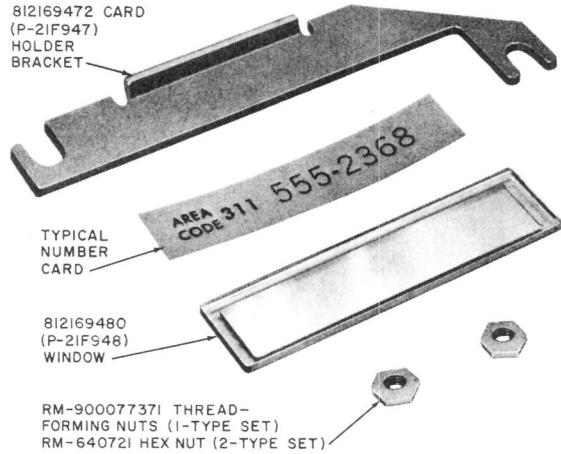

Fig. 21—Number Card and Associated Hardware (TOUCH-TONE Set)
3.41 An 812169472 (P-21F947) card holder bracket, 812169480 (P-21F948) window, and two nuts (Fig. 21) are packaged separately and shipped from the factory in the cash compartment.